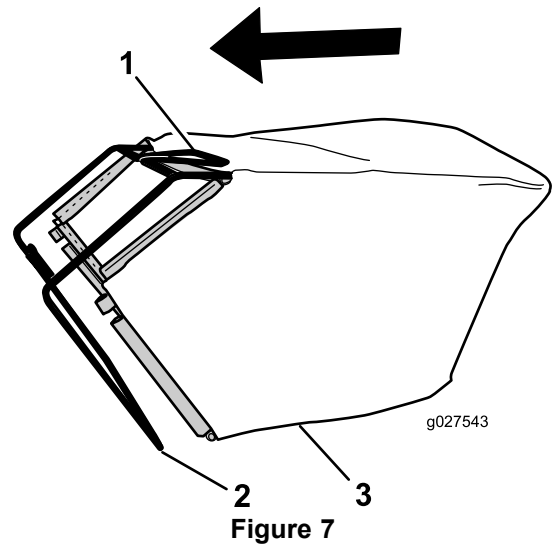

Figure 7
1. Slip the grass bag over the frame as shown in Figure 7.